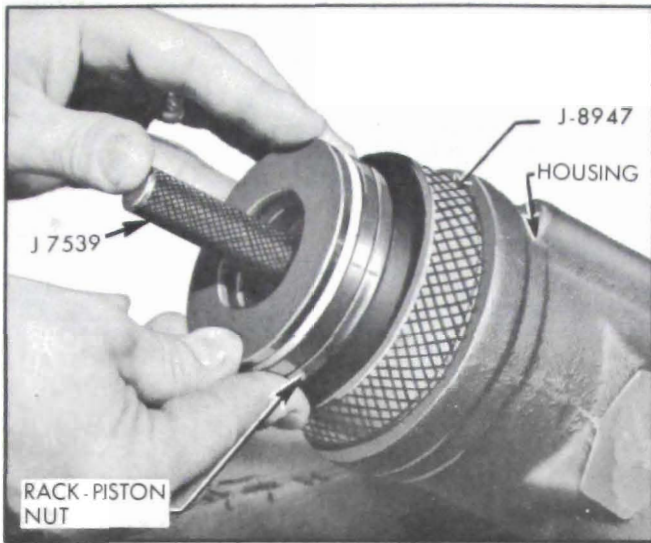

Figure 8-62—Installing Rack-Piston Nut in Housing
6. Install ring compressor sleeve tool J-8947 in gear housing and hold it tightly against shoulder in the housing. See Figure 8-62. Insert the rack-piston nut into the housing until the ball retaining tool J-7539 engages the worm. Turn the stub shaft, drawing the rack-piston nut into the housing. When the piston ring is into the housing bore, the ball retaining tool and the ring compressor may be removed.